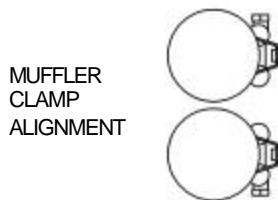

FIGURE 2
7. Remove the muffler assembly from the box and slide two supplied 27-61MSC clamps onto the flared muffler inlets. (Refer to Figure 2 for alignment.)